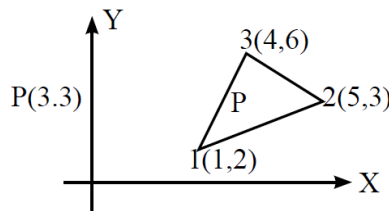

Fig. 3
- 7 a) The co-ordinate of the triangular element is shown in Fig. 3. At the interior point 'P' the x-co-ordinate is 3.3 and $N_1 = 0.3$. Determine N_2 , N_3 and the 'y' co-ordinate at point 'P'. **05**